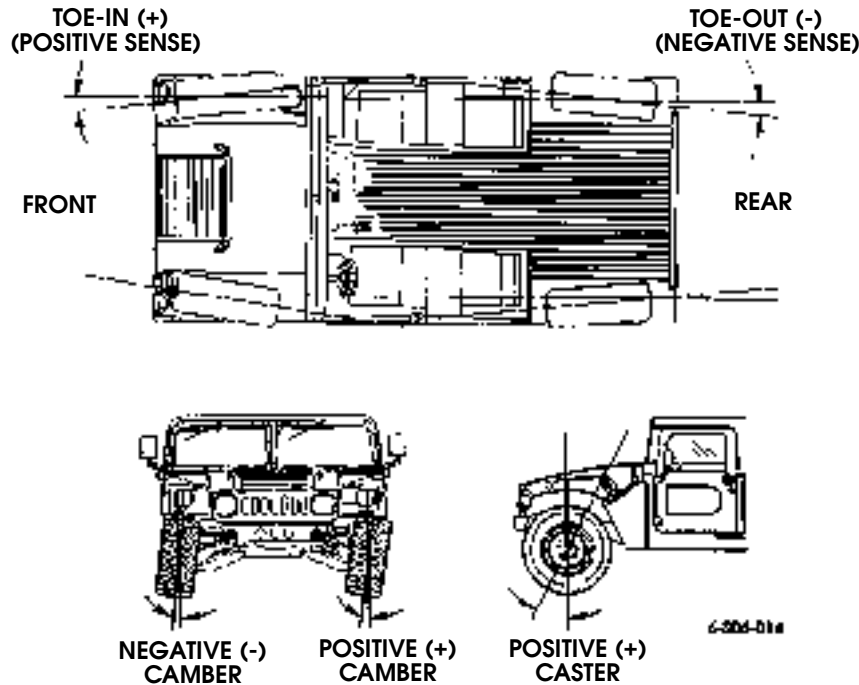

Figure 6-42: Wheel Alignment Information
4. Measure and record caster, camber, toe-in, and toe-out. Refer to alignment specifications (Figure 6-42).